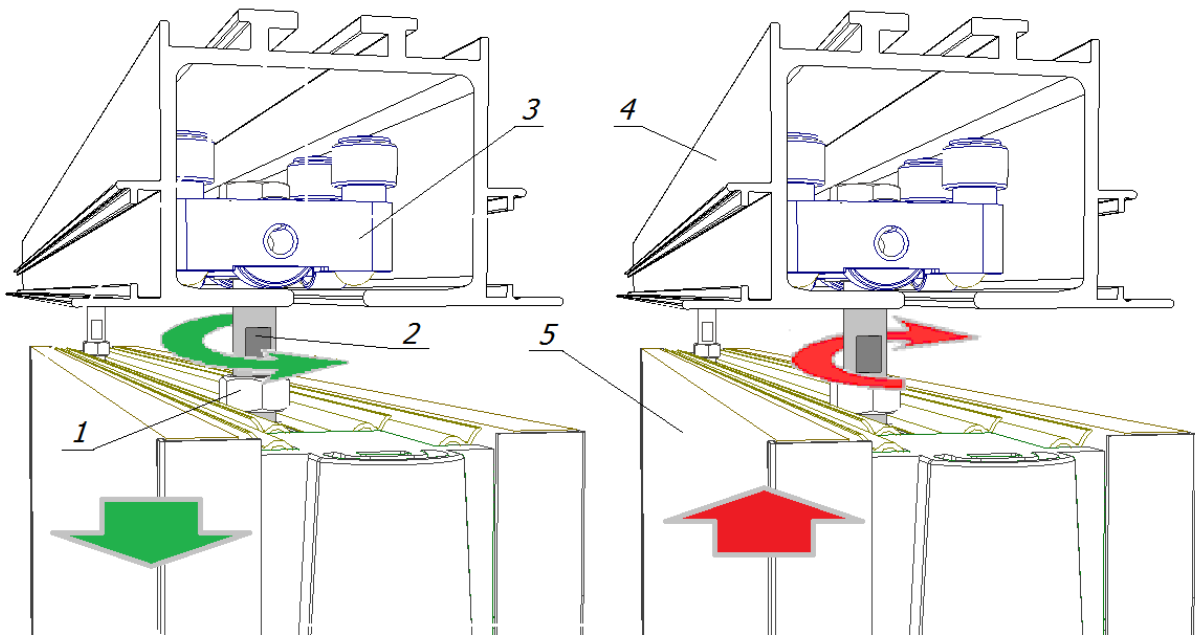

Fig.48. Leveling the mobile panel
- **open-end wrench 13** to the bolt (2 in Fig.48) of the carriage
- **open-end wrench 24** to the nut (1 in Fig.48) countering the carriage